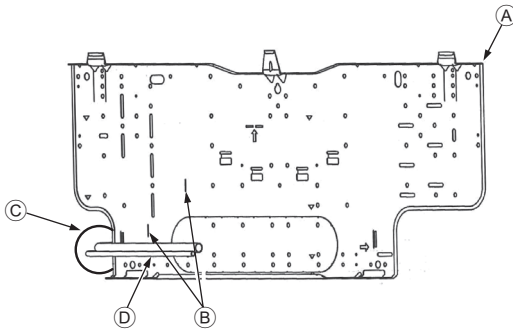

Fig. 3-5
- Ⓓ Fixing screws (4 × 35 mm, 1-3/8 inch) ②
- Ⓘ Mount board ①
3.3. When embedding pipes into the wall (Fig. 3-5)
- Ⓐ Mount board ①